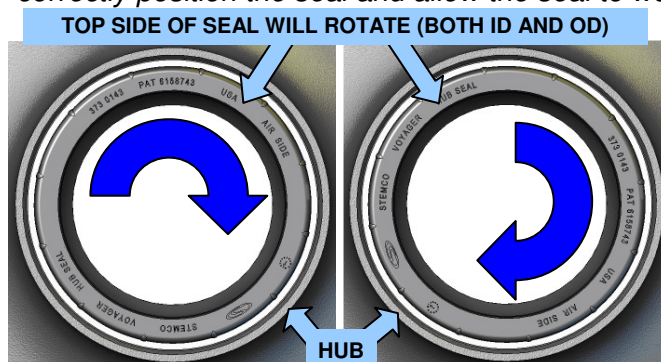

Figure 1
- *The top portion of the seal (as shown in the Figure 1) will rotate after the seal has been installed in the hub. Once the hub is installed over the spindle the seal ID will grab onto the spindle to correctly position the seal and allow the seal to work properly.*